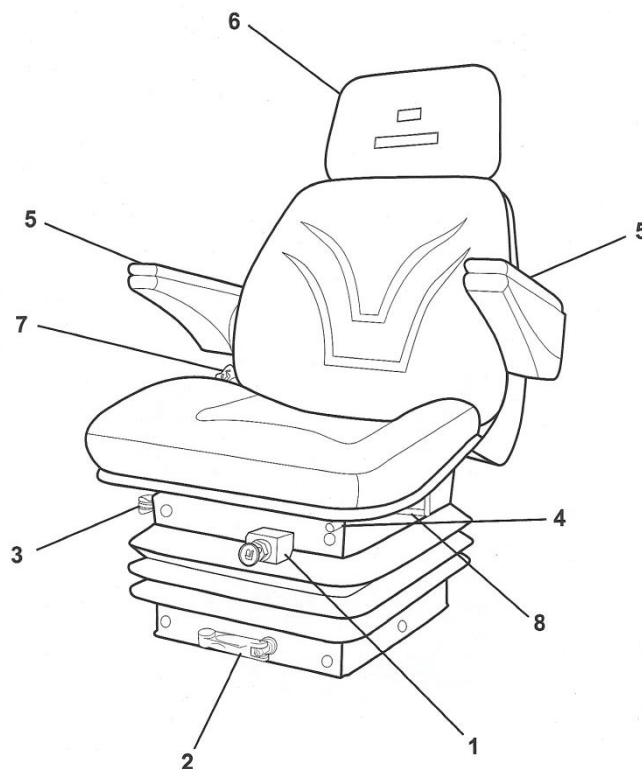

Fig. 3.7. Operator 's seat.
3.5. Operator's seat adjustments (Fig. 3.7)
Seat position adjustment elements are shown in Fig. 3.7.